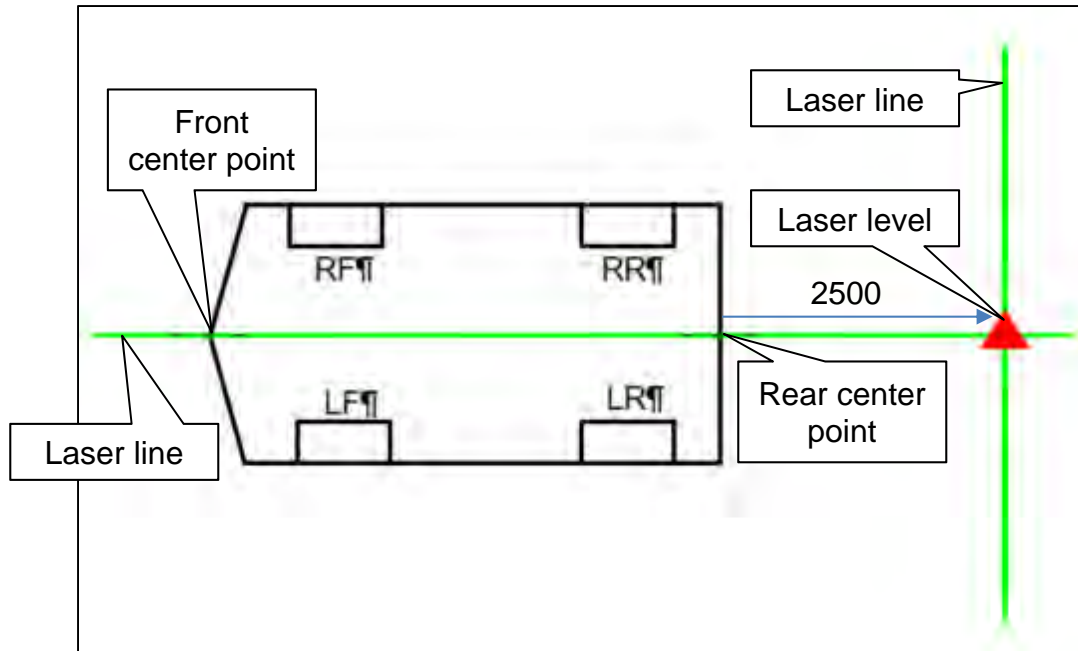
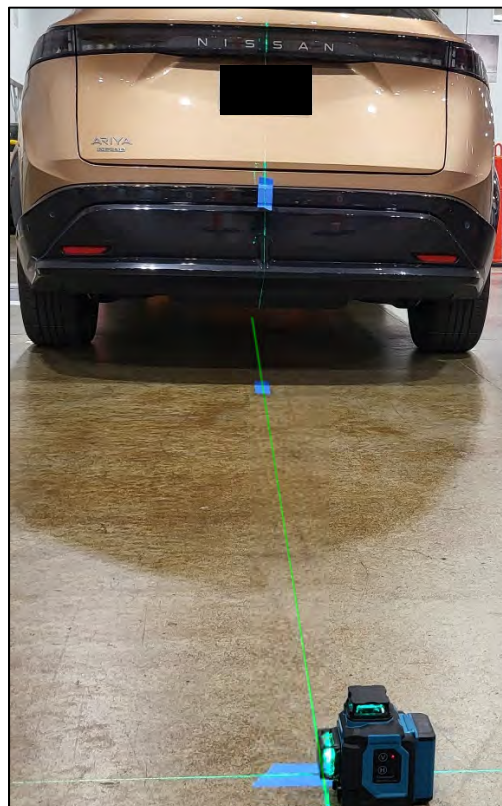

Figure 65
Figure 66
48. Place the laser level 2500 mm from the rear center point of the vehicle, and then align the laser line with both the front and rear center points, as shown in Figure 65 and Figure 66.